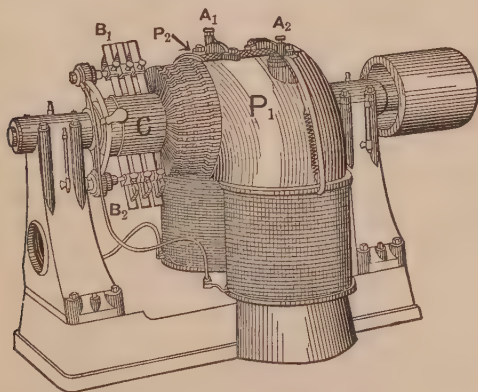
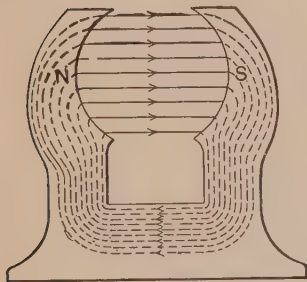
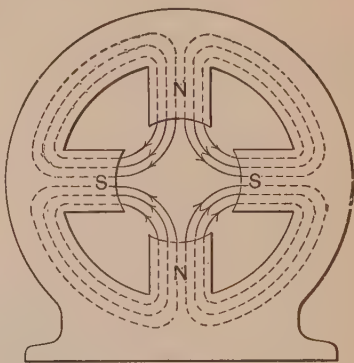

FIG. 100. Simple old-type two-pole generator.
FIG. 106. Diagram of the magnetic lines in a two-pole generator.
FIG. 107. Magnetic lines in a four-pole generator.
**52. Voltage Generated in Armature Wires.** Fig. 100 represents the simplest form of two-pole direct-current generator or motor. As a generator, the power is delivered by
**54. Magnetic Field of a Motor.** The magnetic field of the two-pole motor in Fig. 100 is merely the field of a bar magnet bent into a horse shoe as in Fig. 106. Note that here, too, the lines come out of the north pole and enter the south pole, go through the yoke and back again to the north pole. The armature revolves in the field between the north and south poles, and the wires on it cut the magnetic lines of the field and produce a voltage across the commutator, where it is transmitted to the brushes. Fig. 107 shows the field of a four-pole motor. Note that the lines come out of a north pole and go into a south pole, and that north poles and south poles alternate around the frame.
It will be noted that around the pole pieces  $P_1$  and  $P_2$  of Fig. 100, there are wound coils of wire. These coils supply the magnetizing force to the pole pieces. For when an electric current is sent through these coils a magnetic field is created, its direction depending upon the
In order to produce a field as in Fig. 106, which is the field for the machine of Fig. 100, we merely have to wind coils around the pole pieces and send a current through the coils in the proper direction, as in Fig. 112.